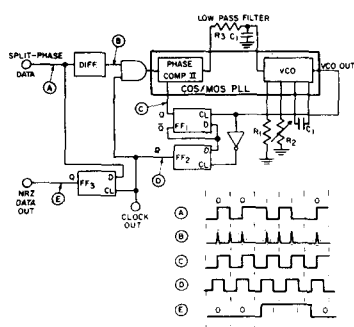

Fig. 14— Split-phase data synchronization and decoding.
Fig. 14 shows another application of COS/MOS PLL, split-phase data synchronization and decoding. A split-phase data signal consists of a series of binary digits that occur at a periodic rate, as shown in waveform A in Fig. 14. The weight of each bit, 0 or 1, is random, but the duration of each bit, and therefore the periodic bit-rate, is essentially constant. To detect and process the incoming signal, it is necessary to have a clock that is synchronous with the data-bit rate. This clock signal must be derived from the incoming data signal. Phase-lock techniques can be utilized to recover the clock and the data. Timing information is contained in the data transitions, which can be positive or negative in direction, but both polarities have the same meaning for timing recovery. The phase of the signal determines the binary bit weight. A binary 0 or 1 is a positive or negative transition, respectively, during a bit interval in split-phase data signals.
As shown in Fig. 14, the split-phase data-input (A) is first differentiated to mark the locations of the data transitions. The differentiated signal, (B), which is twice the bit rate, is gated into the COS/MOS PLL. Phase-comparator II in the PLL is used because of its insensitivity to duty cycle on both the signal and comparator inputs. The VCO output is fed